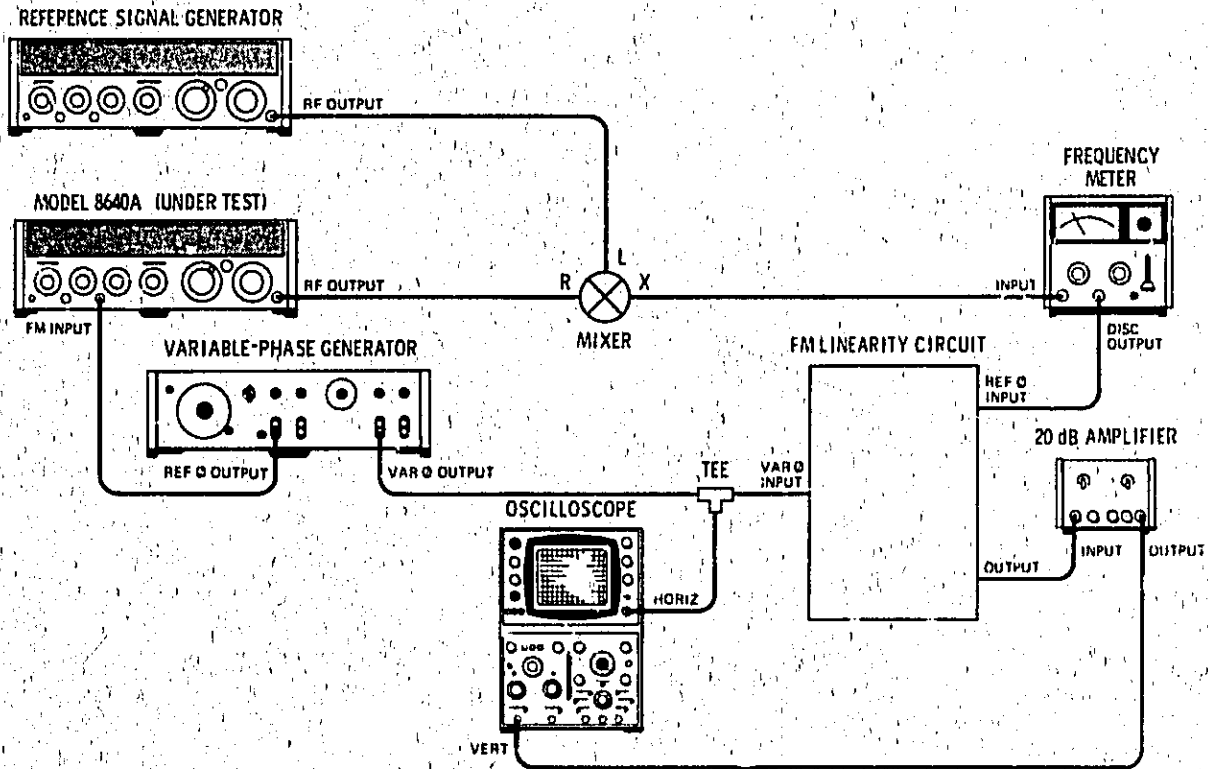

Figure 5-10. FM Linearity Adjustment Test Setup
1. Connect equipment as shown in Figure 5-10 after setting Signal Generator's controls as follows: